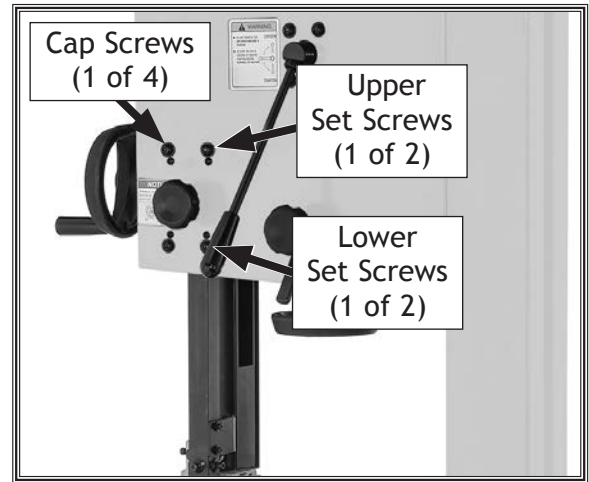

Figure 100. Guide post parallelism adjustment screws.
6. Loosen four cap screws shown in **Figure 100**.
- If guide post to blade distance is greater at *bottom* than at *top*, tighten two *upper* set screws shown in **Figure 100** an equal amount until guide post is parallel with blade.
- If guide post to blade distance is greater at *top* than at *bottom*, tighten two *lower* set screws shown in **Figure 100** an equal amount until guide post is parallel with blade.
7. Tighten four cap screws shown in **Figure 100**, then repeat **Steps 4-5**.